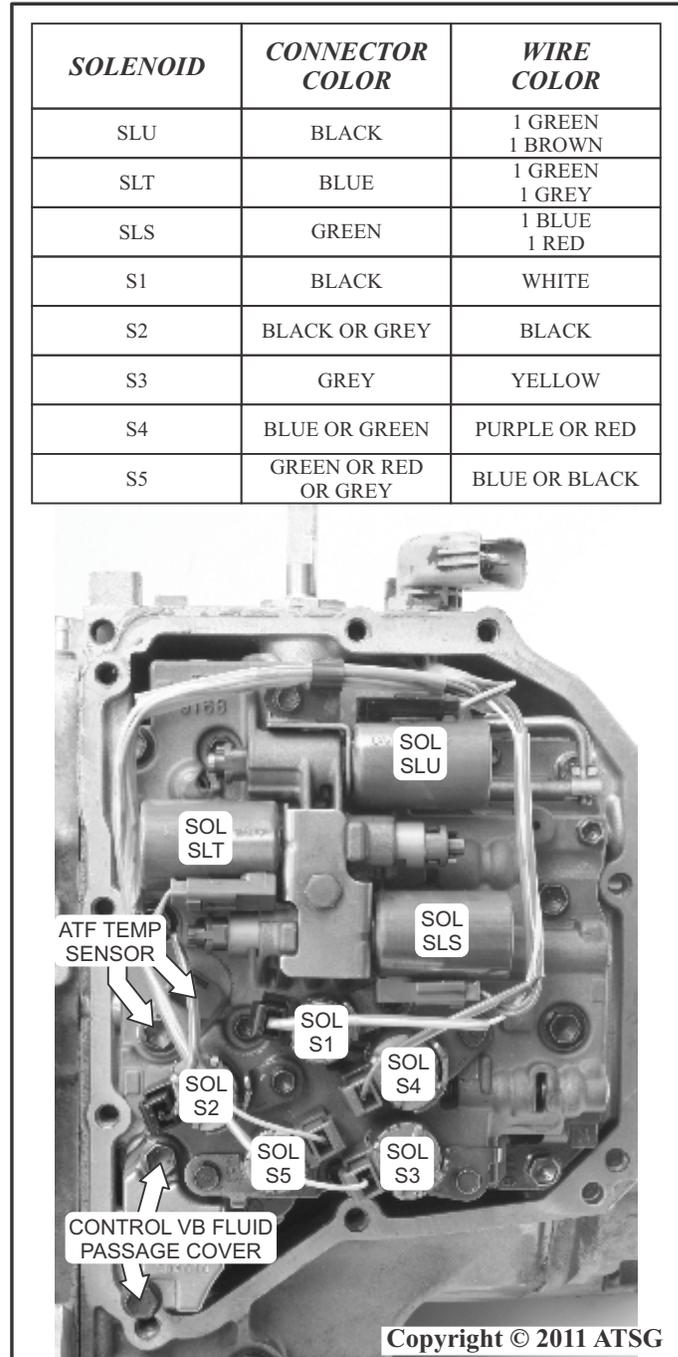

Figure 252
97. Install a new control valve body fluid passage cover gasket and the control valve body fluid passage cover as shown in Figure 252.
98. Install the two *M6 x 1.0 x 50 mm* control valve body fluid passage cover retaining bolts and torque the bolts to *10 N.m (89 in. lb.)* as shown in Figure 252.
99. Install a new o-ring seal onto the ATF temperature sensor and coat the o-ring with a small amount of Trans-Jel® then install the ATF temperature sensor into the valve body with a twisting motion while pushing downward as shown in Figure 252. Install the ATF temperature sensor hold down
100. bracket and the one *M6 x 1.0 x 55 mm* bolt and torque the bolt to *10 N.m (89 in. lb.)* as shown in Figure 252.
101. Install the five shift solenoid connectors (S1, S2, S3, S4, and S5) as shown in Figure 252.
103. Install the three linear solenoid connectors (SLS, SLT, and SLU) as shown in Figure 252.